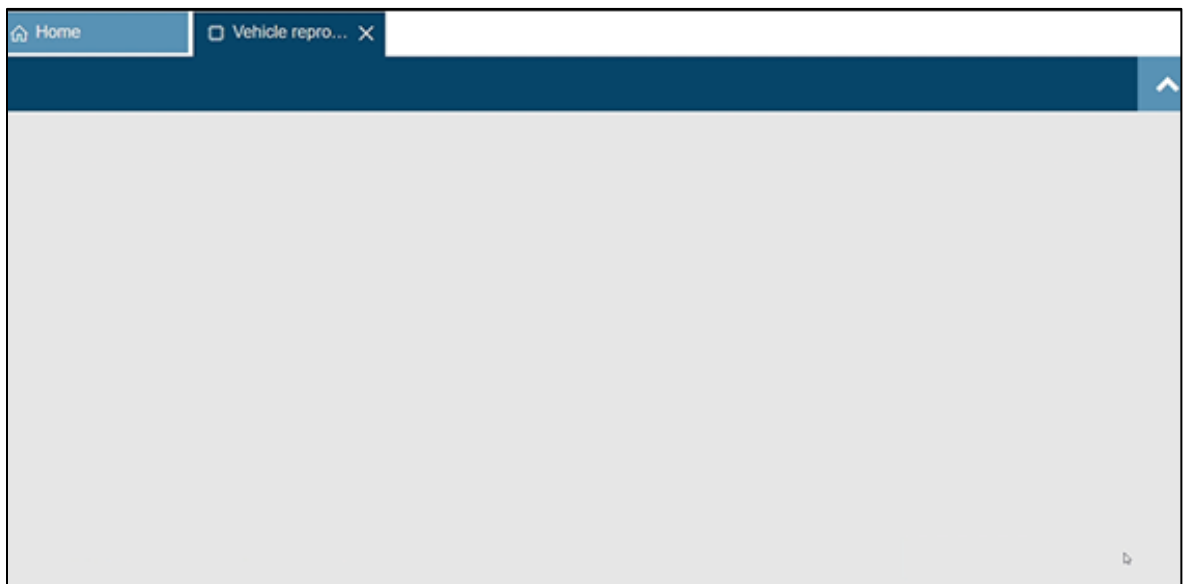

Figure 14
15. The screen will be blank for approximately 1 minute (Figure 14).